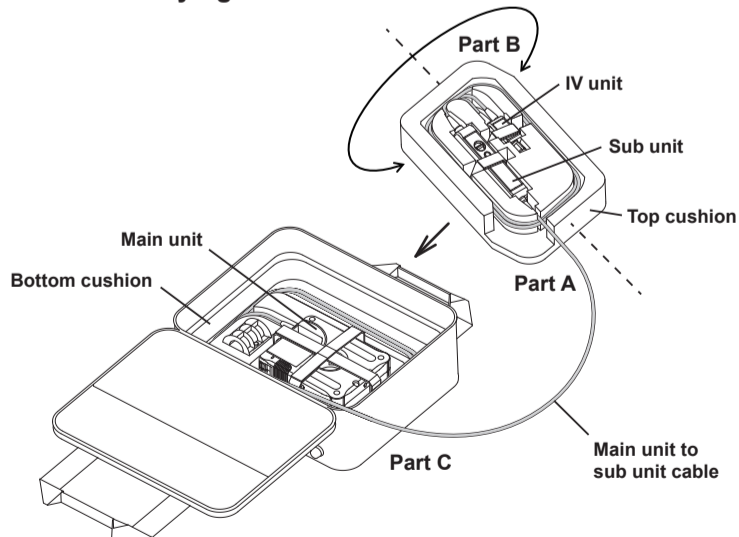

Figure 1. How to store in carrying case
8. Place the upper cushion on top of the lower cushion so that part A or B (see Figure 1) of the upper cushion and part C (see Figure 1) of the carrying case are aligned. Also, make sure that the cable is not pinched between the upper cushion and the top of the main unit.